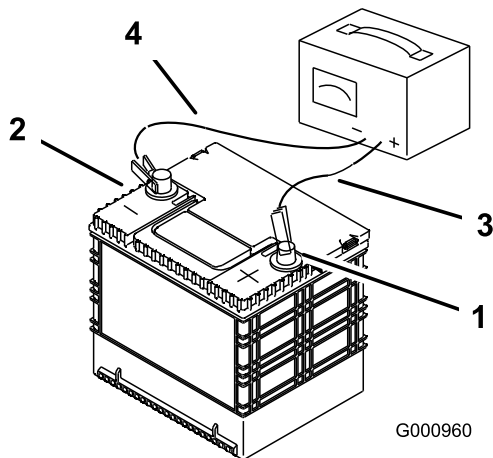

Figure 55
- When the battery is fully charged, unplug the charger from the electrical outlet, then disconnect the charger leads from the battery posts (Figure 55).